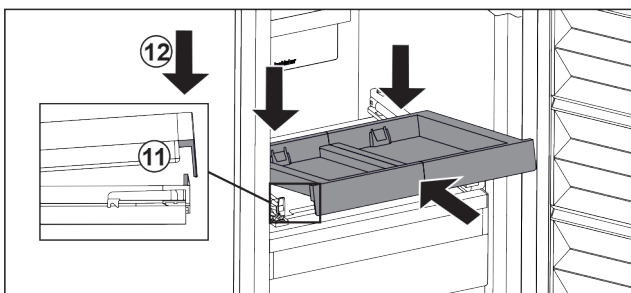

Fig. 84
- Slide in at an angle. Make sure that the stop is behind the lug on both sides. Fig. 84 (11)
- Lower the pull-out board at the front. Fig. 84 (12)